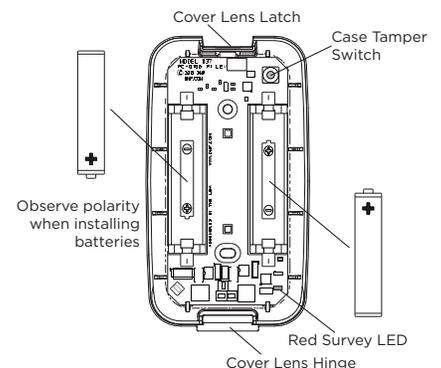

Figure 3: PCB and Battery Location
2. Observing polarity, place the batteries in the holders and press into place. When the batteries are installed with the proper polarity, the RED Survey LED on the PCB will immediately begin to flash. If the RED Survey LED does not begin to flash, the batteries are not installed with the proper polarity. They must be removed and installed correctly. See Figure 3.
The case tamper switch is pressed when the reflector of the 1137 is secured to the base. When the reflector is removed, the 1137 sends a Tamper Trouble message to the Central Station. See Figure 3 for case tamper switch location.